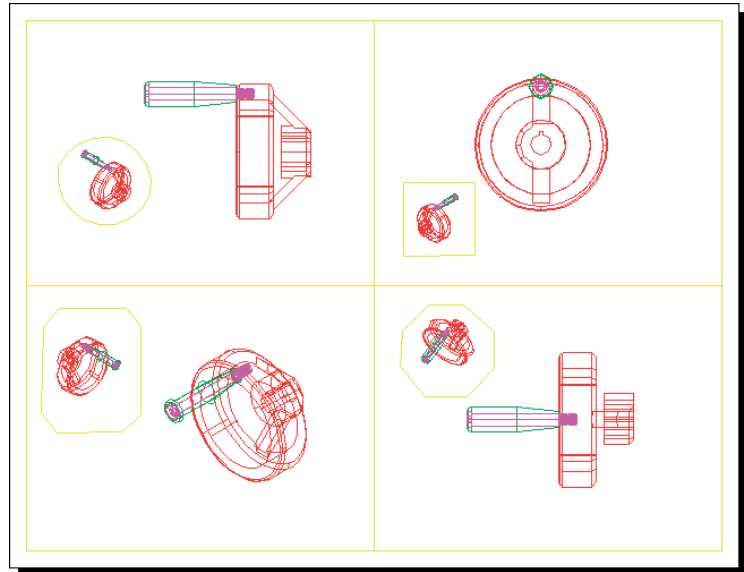

Fig. 20.11 Polyagonal viewports
Polygonal viewports (Fig. 20.11)
10. Repeat in each of the viewports with different shapes of polygonal viewport outlines (Fig. 20.11).